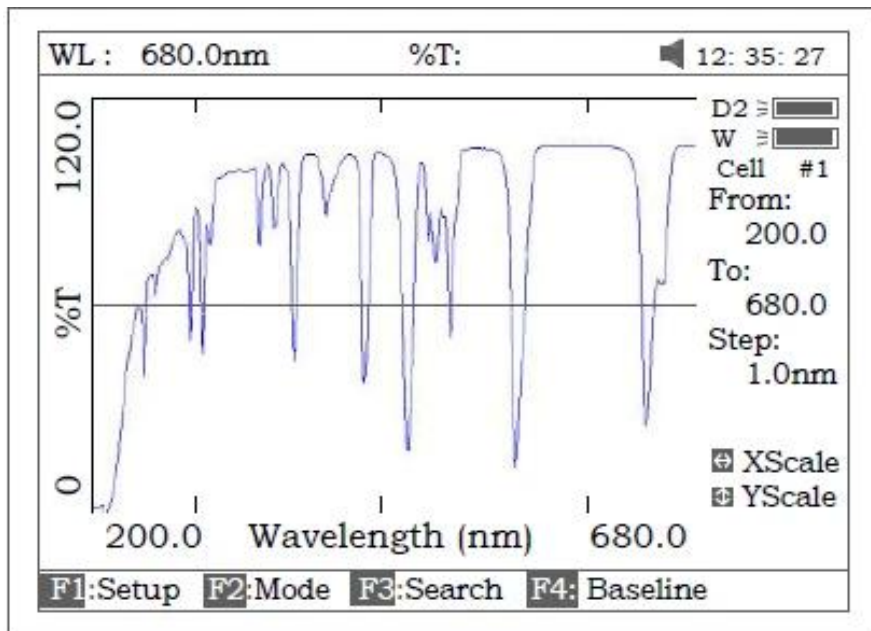

Figure 14
1. The key **【ENTER】** be pressed, the file selected will be loaded and displays on the screen. Fig 14.
- Press the key **【SAVE】** in Fig14 to save curve.